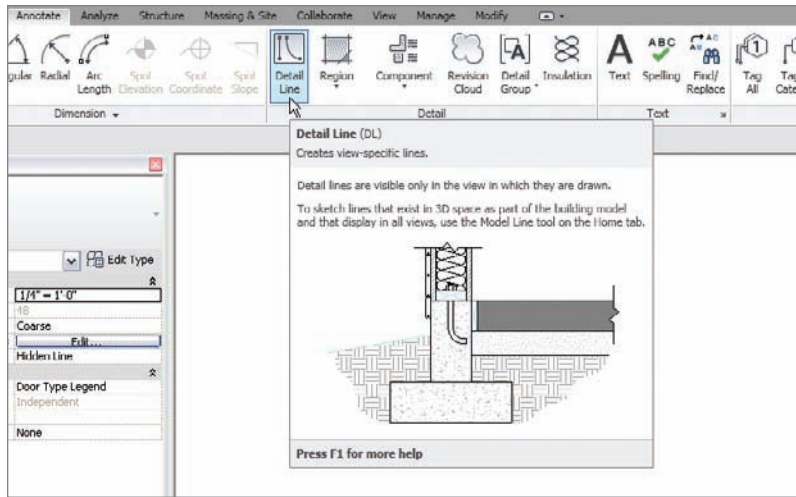

FIGURE 11.51 Click the Detail Line button on the Annotate tab.
1. On the Annotate tab, click the Detail Line button, as shown in Figure 11.51.